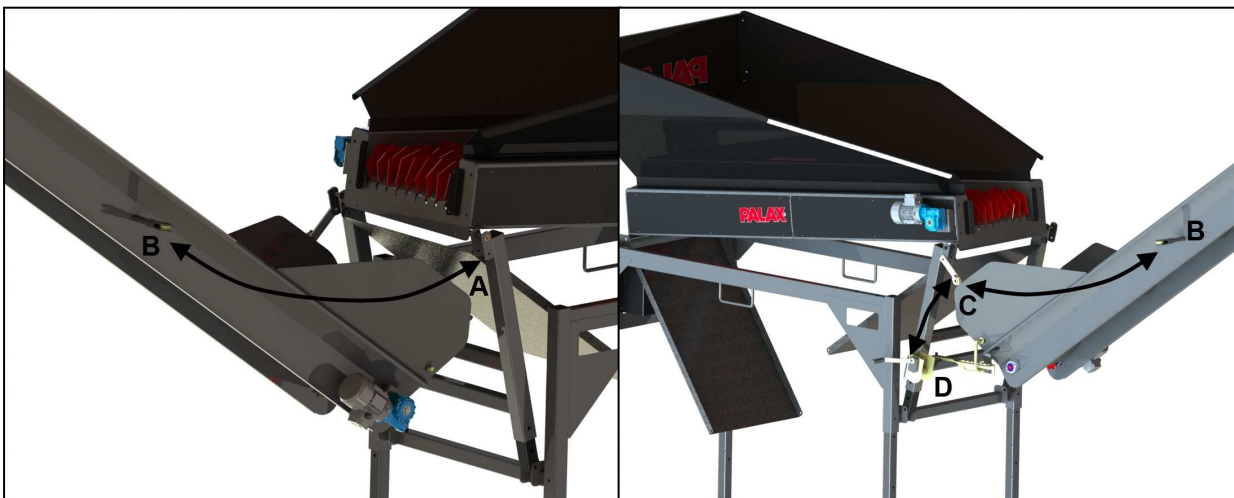

Figure 5.
- Attach the wire loop to screw A (Figure 5.).
- Thread the wire through the conveyor and behind the rollers through pipe B (Figure 5.).
- Thread the wire through roller C (Figure 5.) to winch D (Figure 5.).